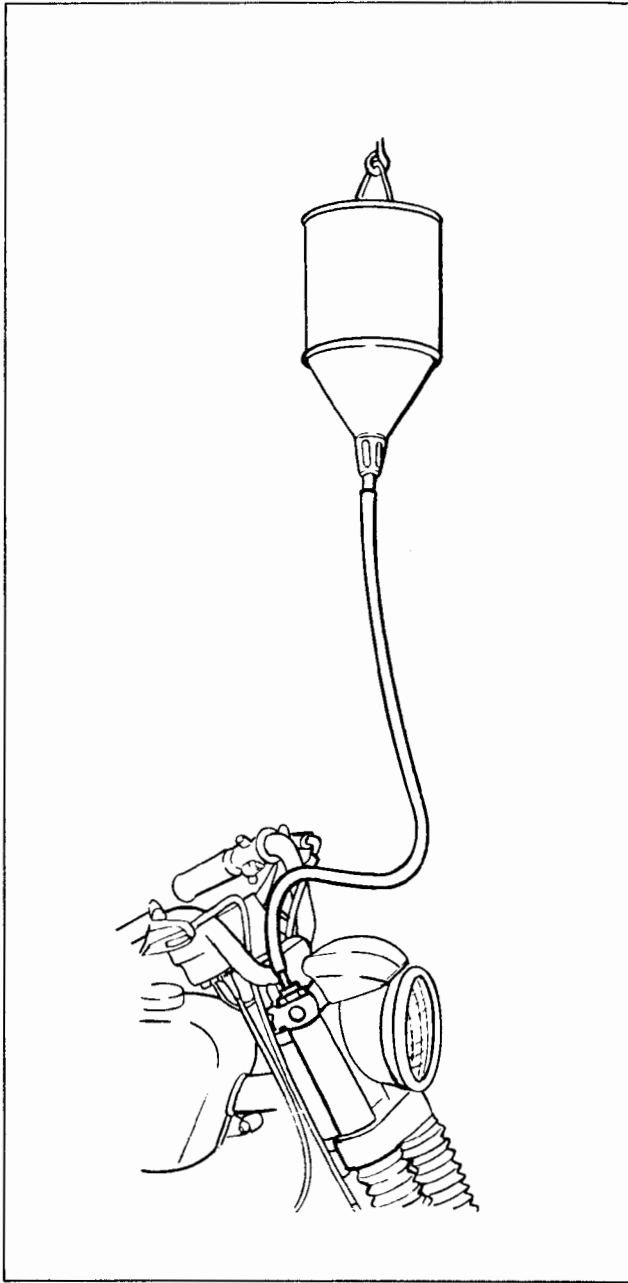

Figure 2-19. Filling Hydraulic Fork with Oil
3. Make plug (7) from a rubber bottle stopper purchased from a drug store. Rubber stopper should be 1 in. to 1-1/8 in. long, and its largest diameter about 5/8 in.
5. Slightly flare one end of a piece of 1/4 in. tubing (6), about 2 in. long and insert into plug (7). Attach filler can to plug with transparent flexible tubing (5) about 2 feet long. See Figure 2-19.
6. Push the plug into the filler hole in fork top, Figure 2-19. Pour exact amount of oil into can. Work fork up and down. Air escaping through oil in filler can as fork is pushed downward will cause the oil to bubble violently, but because the bottom of the can serves as a baffle, no oil will be lost. Compressing the fork forces air out, releasing it draws oil into fork.